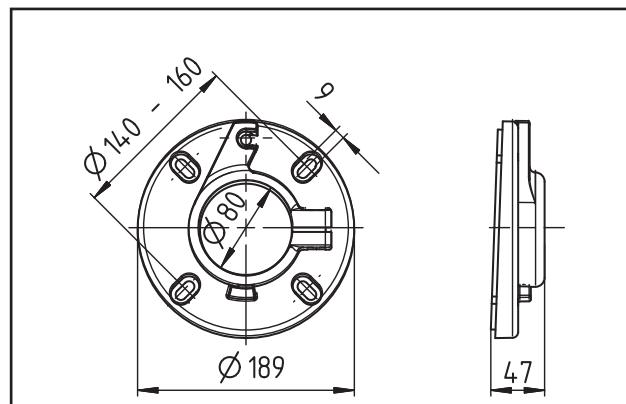

Figure 6
- Caution:** The flange must be oriented to ensure that the burner is installed with the correct angle (see fig. 6).